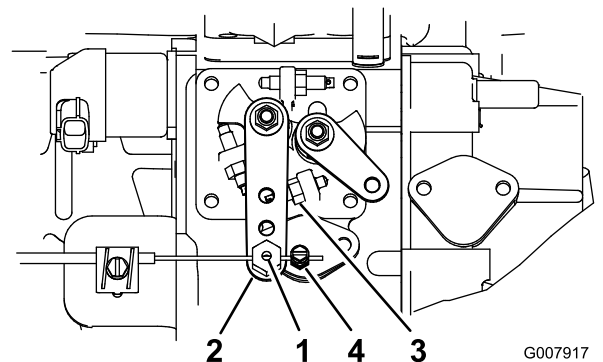

Figure 45
2. Loosen the throttle cable connector, on the throttle cable, next to the injection pump lever (Figure 45).
3. Hold the injection pump lever arm against the high idle stop (Figure 45).